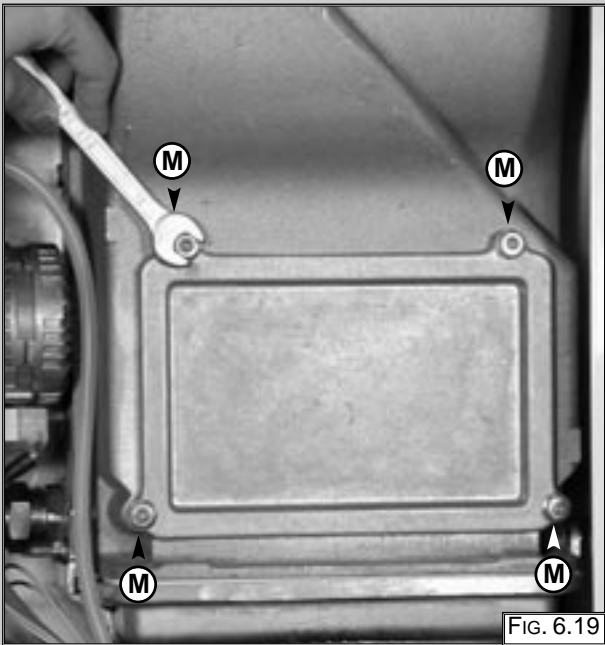

FIG. 6.19
1. Remove the four nuts "M" (FIG. 6.19);